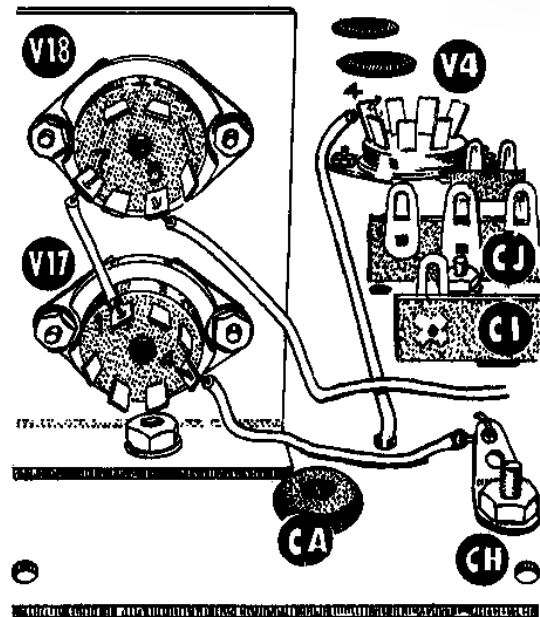

Figure 8
- (✓) Mount a 7 pin miniature tube socket in locations V17 and V18 on the bracket. Use #3-48 x 1/4" PHMS and place lockwashers under the nuts. The sockets mount with the pin connections on the flanged side. Observe that the pin orientation is the same for each socket as shown in Figure 8.
- () Using heavy red insulated #18 hookup wire, connect V5-2 (S2) and V6-2 (NS). Run lead under the socket directly between the two pin connections.
- (✓) Using orange hookup wire, connect V6-3 (S2) and V5-3 (NS). Run lead under the sockets directly between the two pin connections.
- (✓) Using heavy red insulated #18 hookup wire, connect V6-1 (S2) to V5-1 (NS). Run lead under the sockets directly between the two pin connections.
- (✓) Insert one end of a 6" length of heavy red insulated #18 hookup wire through hole CL from the bottom side of the chassis top plate and connect to V6-2 (S3). Connect the other end to V4-4 (NS).
- (✓) Connect a short piece of heavy red insulated #18 hookup wire through hole CP to V5-1 (S3). Connect the other end to terminal strip CK-1 (NS).
- (✓) Connect a short length of heavy red insulated #18 hookup wire through hole CN to V6-5 (S1). Connect the other end to lug 1 of terminal strip CI (NS). Make connection as direct as possible.
- (✓) Connect a short length of heavy red insulated #18 hookup wire through hole CM to V5-5 (S1). Connect the other end to lug 1 of terminal strip CI (NS). Dress lead so it is self-supported about 1/2" off the chassis.
- (✓) Referring to Figure 8 and using orange hookup wire, connect a wire between V17-1 (S1) and V18-7 (S1).
- (✓) Using orange hookup wire, connect V17-4 (S1) to the solder lug CH (NS).